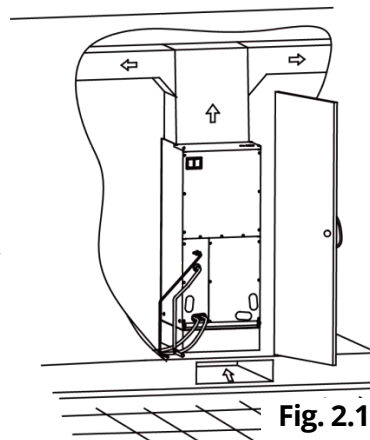

Fig. 2.1
- If air handler is installed as shown in Fig. 2.1, the air handler should be concealed in a specific room or space and make sure the air handler is not accessible to the general public.